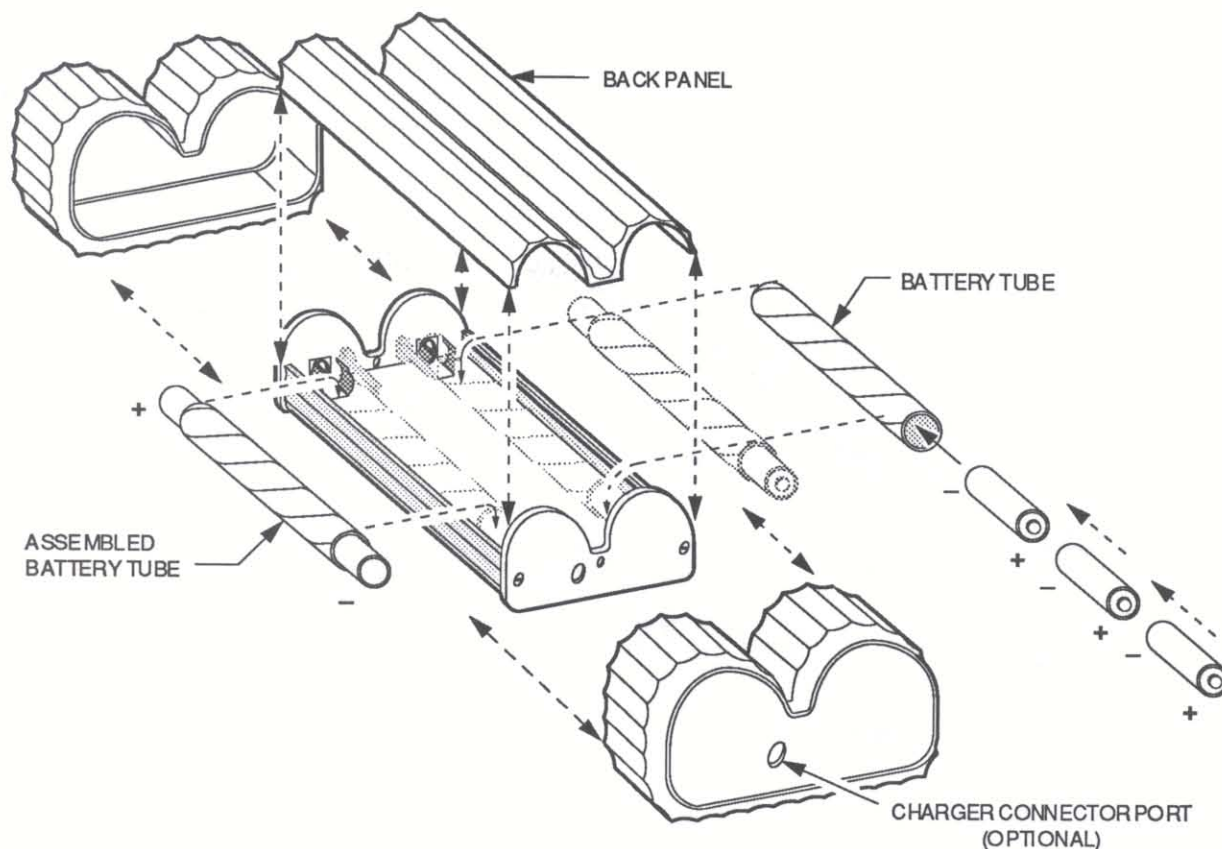

Figure 2. Disassembly of the CLC
Use figure 2, which illustrates the extent to which the unit must be disassembled, and the following procedure to install the batteries.
4. Insert batteries, three per tube, ensuring that proper polarity is maintained as shown in figure 2.
The first step in the procedure is the disassembly of the unit. Figure 2, shown earlier in this manual in the Battery Installation Section, illustrates this.